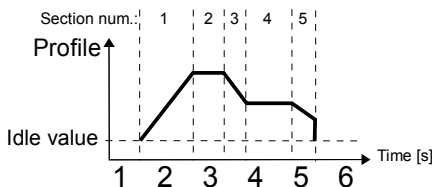
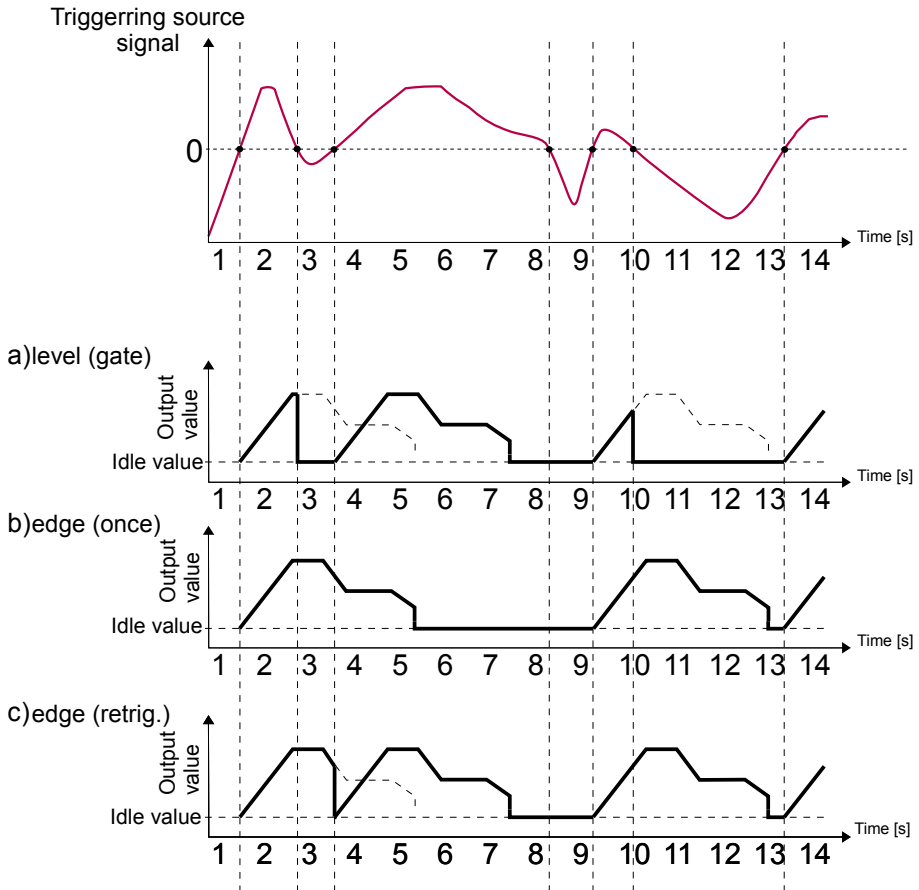

Fig. 7.85. Sample of Profile/timer
Fig. 7.86. Samples of **Profile** output waveforms defined in Fig. 7.85, triggered by signal selected in **Triggering source** parameter
- **level (gate)** - this means that configured by user **Profile** is generated when source signal will have a value  $> 0$ , otherwise (if source value  $\leq 0$ ) defined Profile will not be generated, see example **a**) in the Fig. 7.85 and Fig. 7.86,
- **edge (once)** - this means that configured by user **Profile** will be triggered by rising edge signal (from values  $\leq 0$  to the value  $> 0$ ) from source signal. After the rise edge the **Profile** will be generated in whole (once), regardless of further changes to the signal source, see example **b**) in the Fig. 7.85 and Fig. 7.86,
**source** signal will generate a edge, whether that Profile had been completed or not, see example **c)** in the Fig. 7.85 and Fig. 7.86,